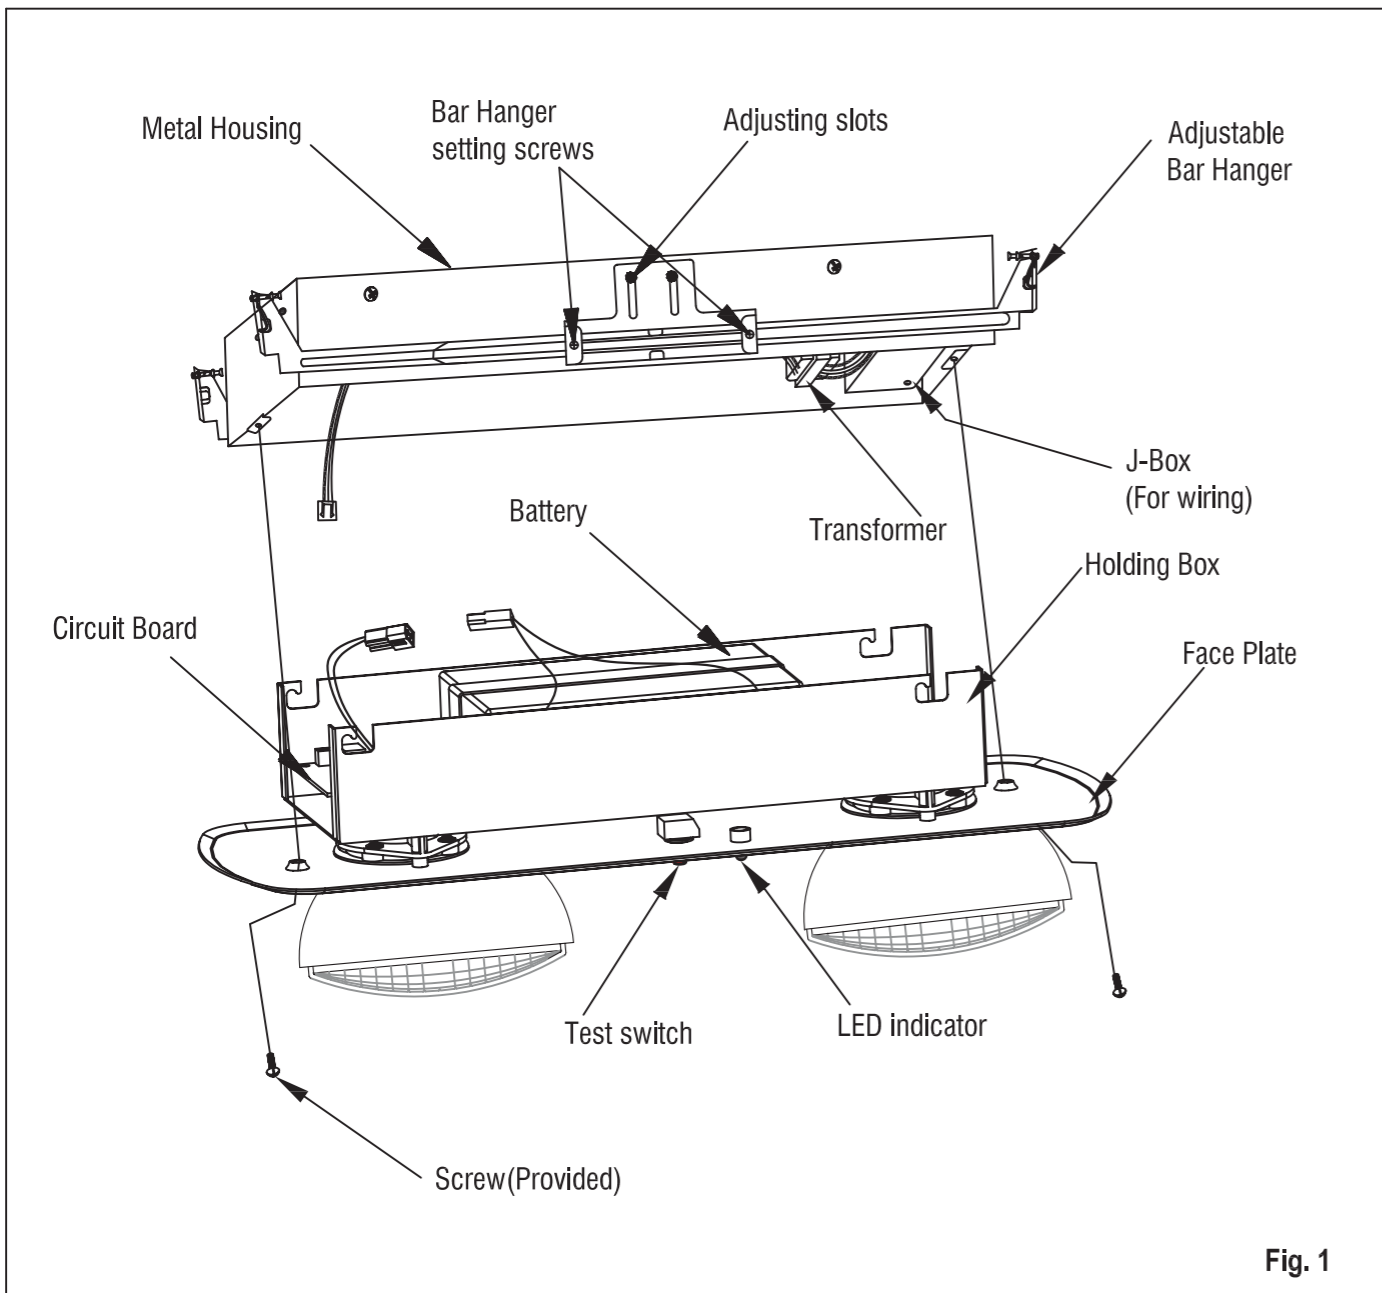

Fig. 1
1. Refer to assembly drawing (Fig. 1) before starting installation.